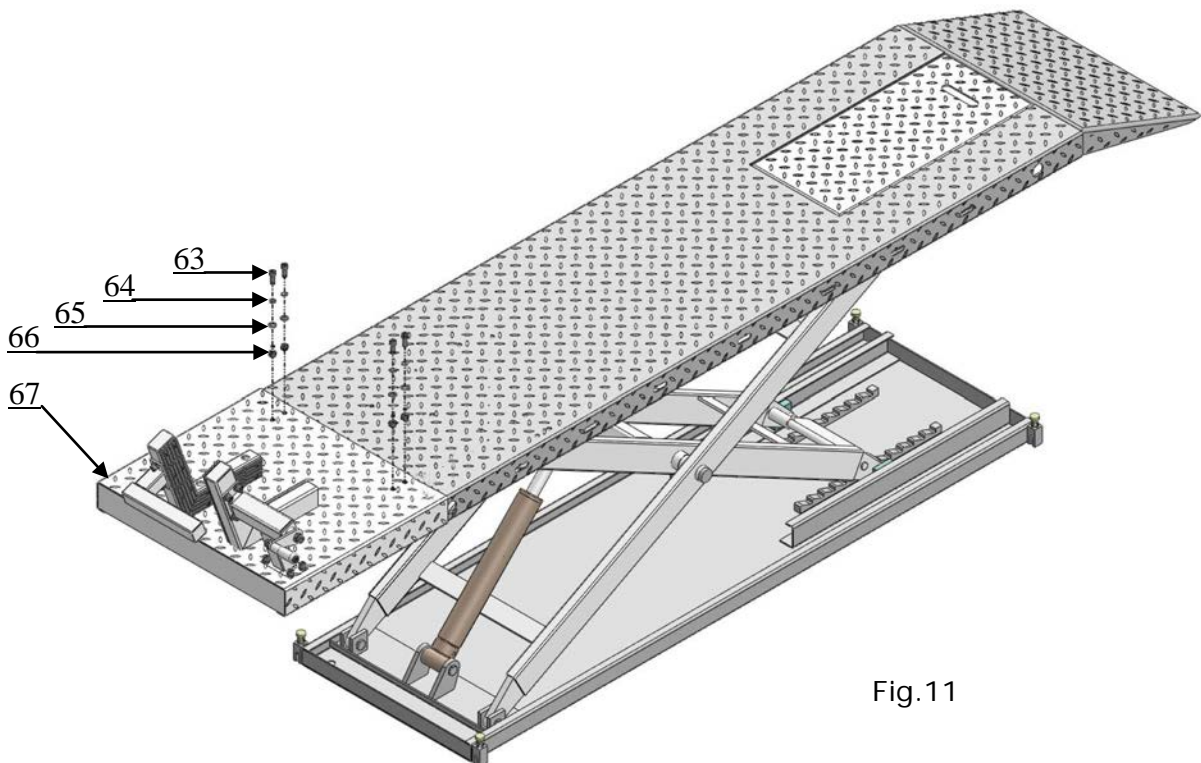

Fig.11
G. Install platform extension kit (optional). See Fig 11